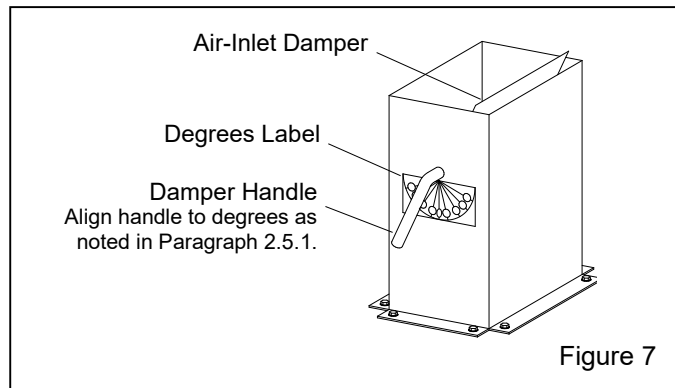

Figure 7
2.5 Set Air-Inlet Damper – Figure 7